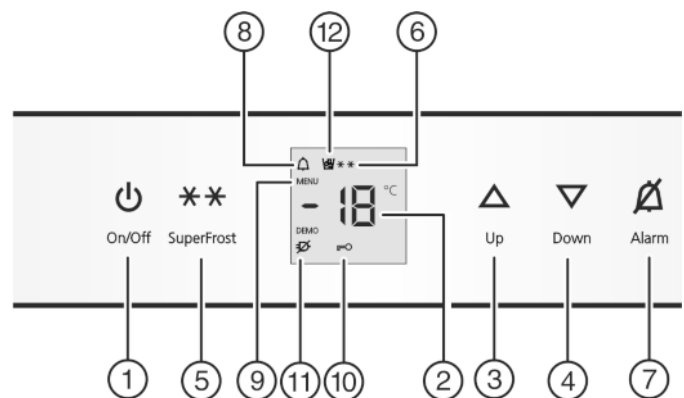

Fig. 2
- Press On/Off button *Fig. 2 (1)*.
- To activate the setting mode: press SuperFrost button *Fig. 2 (5)* for about 5 s.
- ▷ The menu symbol *Fig. 2 (9)* shines.
- Briefly press the SuperFrost button *Fig. 2 (5)* to confirm.
- To activate the child lock, briefly press the SuperFrost button *Fig. 2 (5)*.
- ▷ The child lock symbol *Fig. 2 (10)* shines. **c** flashes in the display.
- to deactivate the child lock, briefly press the SuperFrost button *Fig. 2 (5)*.
- ▷ The child lock symbol *Fig. 2 (10)* goes out. **c** flashes in the display.
- To deactivate the set-up mode: press On/Off button *Fig. 2 (1)*.
- Press alarm button *Fig. 2 (7)*.
The temperature display and the alarm symbol *Fig. 2 (8)* flash at the same time.
The audible alarm is automatically silenced, the alarm symbol *Fig. 2 (8)* goes out and the temperature display stops flashing when the temperature is sufficiently cold again.
- ▶ To set the temperature higher: press Up button *Fig. 2 (3)*.
- ▶ To set the temperature lower: press Down button *Fig. 2 (4)*.